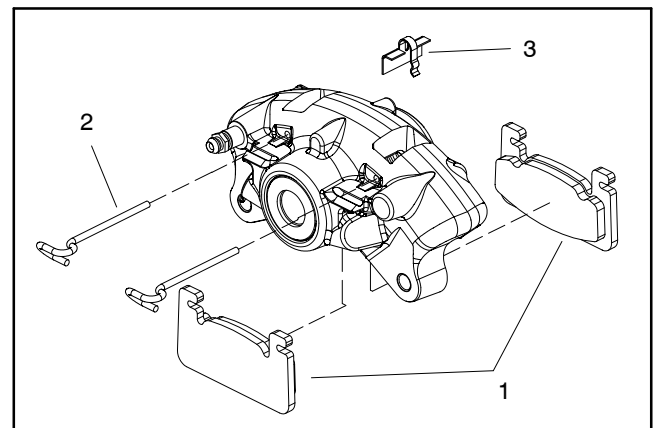

Figure 7
5. Remove two (2) cap screws and lock washers that secure the brake caliper to the spindle.
7. If necessary, remove brake pads from caliper (Fig. 7):
1. If brake pads were removed from caliper, install pads (Fig. 7):
- C. Secure pads into caliper with two (2) pins. Make sure that pins snap into caliper slots. Install anti-rattle clip to caliper, pin and brake pads.
3. Align caliper mounting holes with spindle. Secure caliper with two (2) cap screws and lock washers.